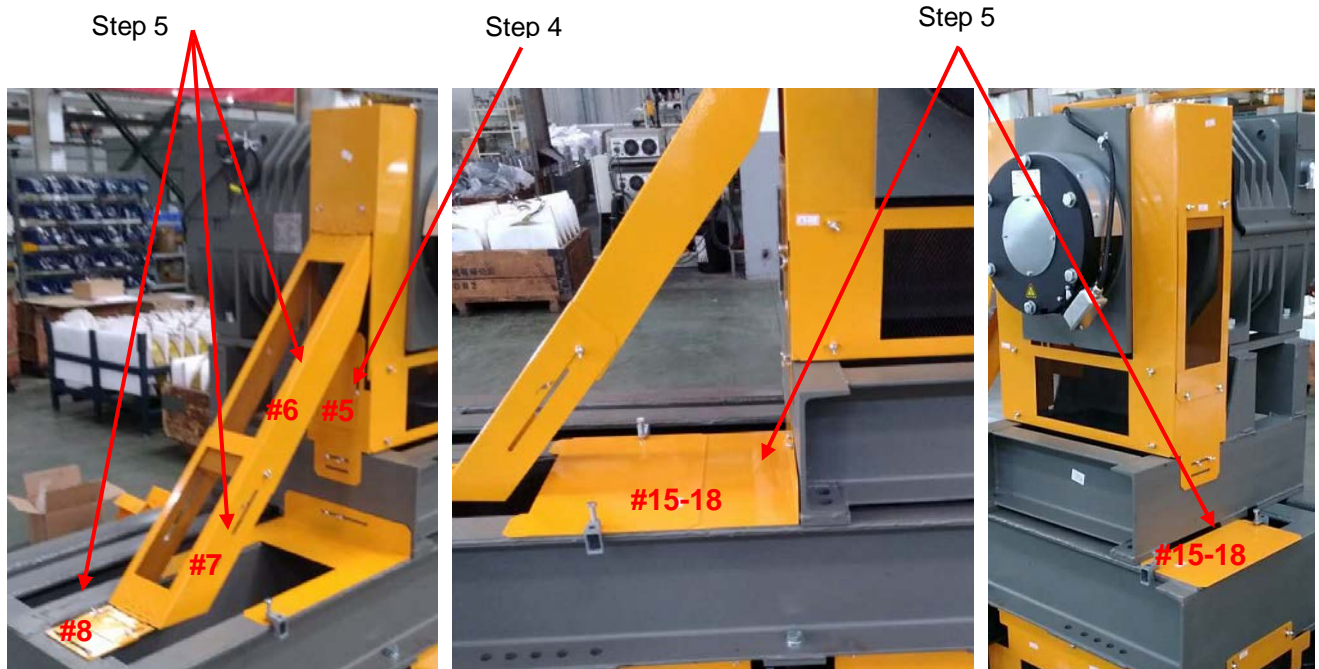

Figure 3 Install Deflector Side Sheave Cover, Upper and Lower Rope Guards and Bedplate Covers
**Step 4:** Install the Deflector Side Sheave Cover [#5] to the Sheave Cover using (2) wing bolts, flat washers, and lock washers. See Figure 3.
**Step 5:** Install the Deflector Side Rope Upper Guard [#6] to the Sheave Cover. Then install the Deflector Side Connecting Plate [#8] to the bedplate and the Deflector Side Lower Rope Guard [#7] to the Deflector Side Upper Rope Guard [#6] and the Connecting Plate. Finally, install the Bedplate Top Covers 1-4 [#15-18] using wing bolts, flat washers, lock washers, and beam clamps. See Figure 3. **Note: Install the Top Covers as needed to cover the opening between support channels.**